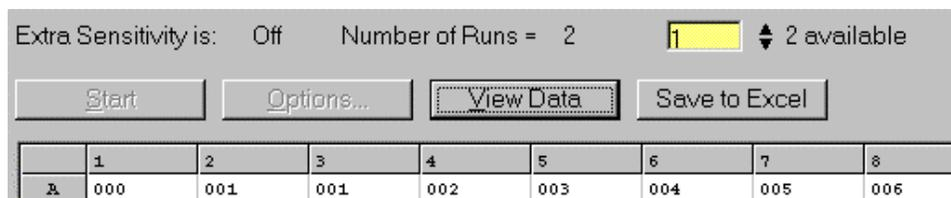

Figure 10
- Clicking on the "View Times" button will change the display to show the time that each well was read relative to the time the first well was read for the first time (Figure 10). In other words, it displays how long from the start of the run each well was read. The time is in seconds and is accurate within +/- 0.5 seconds. The time readings will not necessarily always be sequential. Wells with bright samples will require lower gains. Since the luminometer reads all wells at the highest gain setting first then re-reads saturated wells at progressively lower gains, those wells that require lower gains will have larger relative time readings. This data can be used to adjust the readings if you know that the luminosity of your sample is decaying during the run. Clicking on the "View Data" button will change the display to show the data.